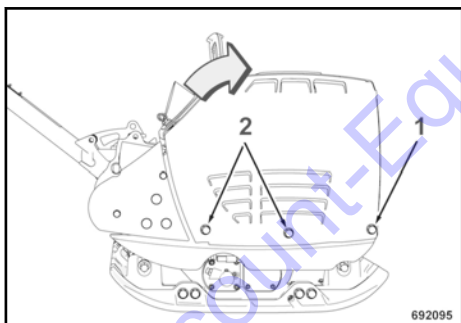

Fig. 38
Loosen the hood fasteners (1) on both sides and remove the fasteners (2) from both sides → Fig. 38.